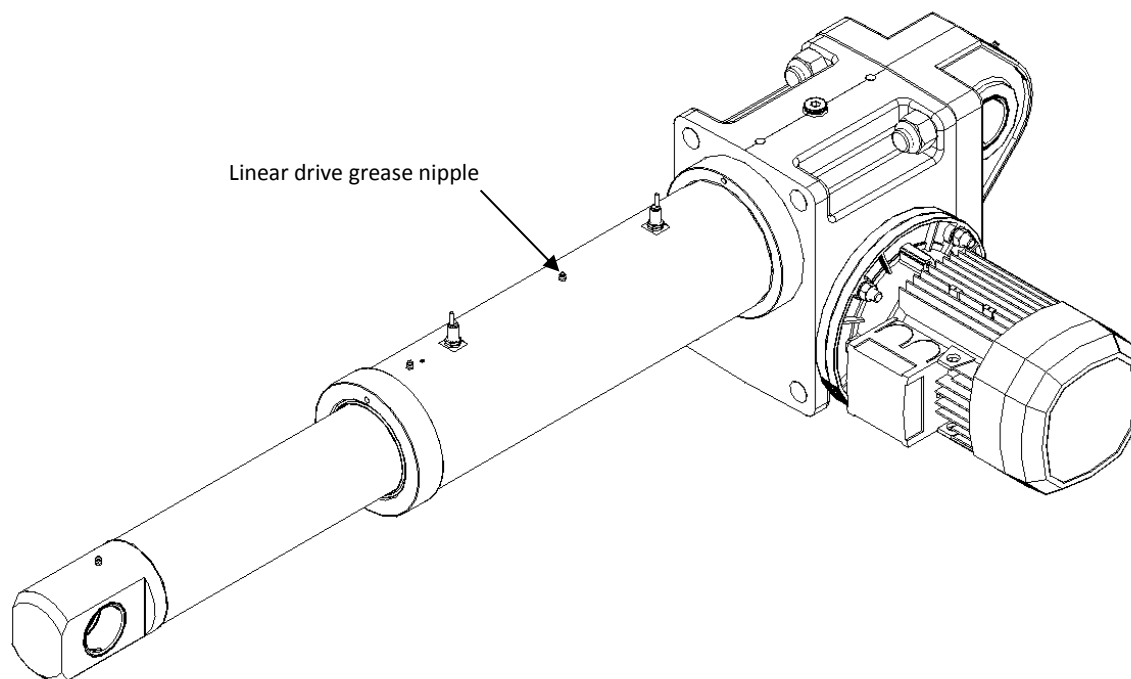

Figure 9.2 – Linear drive relubrication
- Relube the linear actuator using proper grease nipples, as shown on Fig. 9.2